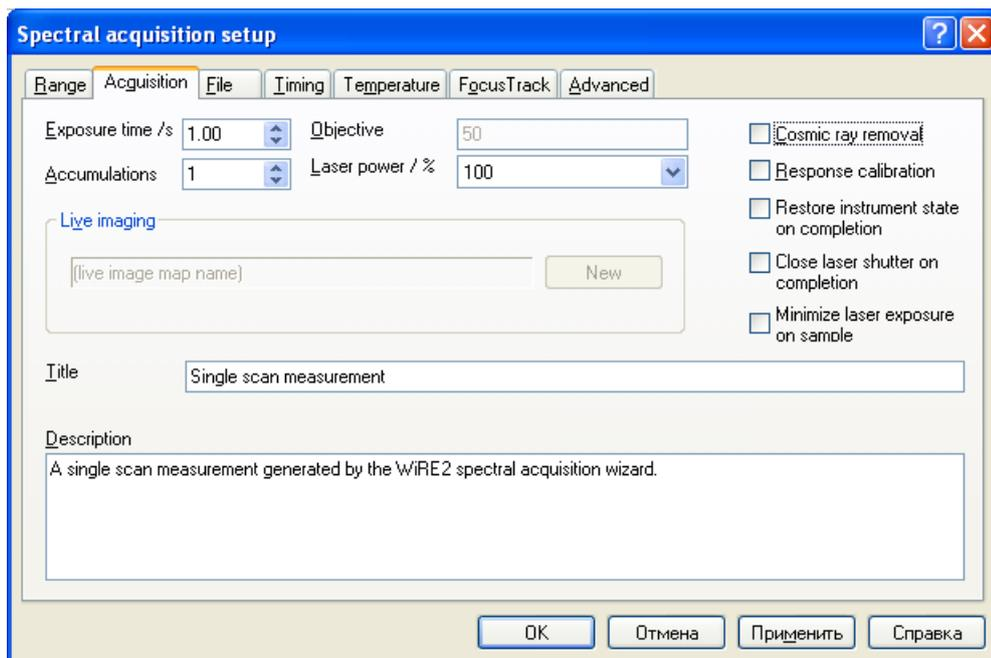

Fig. 10-20. **Acquisition** tab of the **Spectral acquisition setup** window
- a. Open the **Spectral acquisition setup** window (Fig. 10-20) with the **Measurement Settings** button.